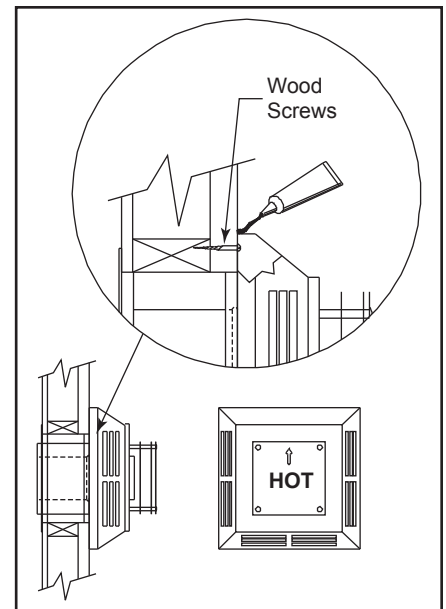

Figure 27
**Step 4** - Position the horizontal termination cap in the center of the square framed hole, and attach to the exterior wall with the four (4) wood screws provided. Before attaching the vent termination cap to the exterior wall, run a bead of non-hardening silicone sealant around the outside edges to make a seal between the cap and the wall. The arrow on the vent cap should be pointing up. Ensure proper clearances to combustible materials are maintained, Figure 27.